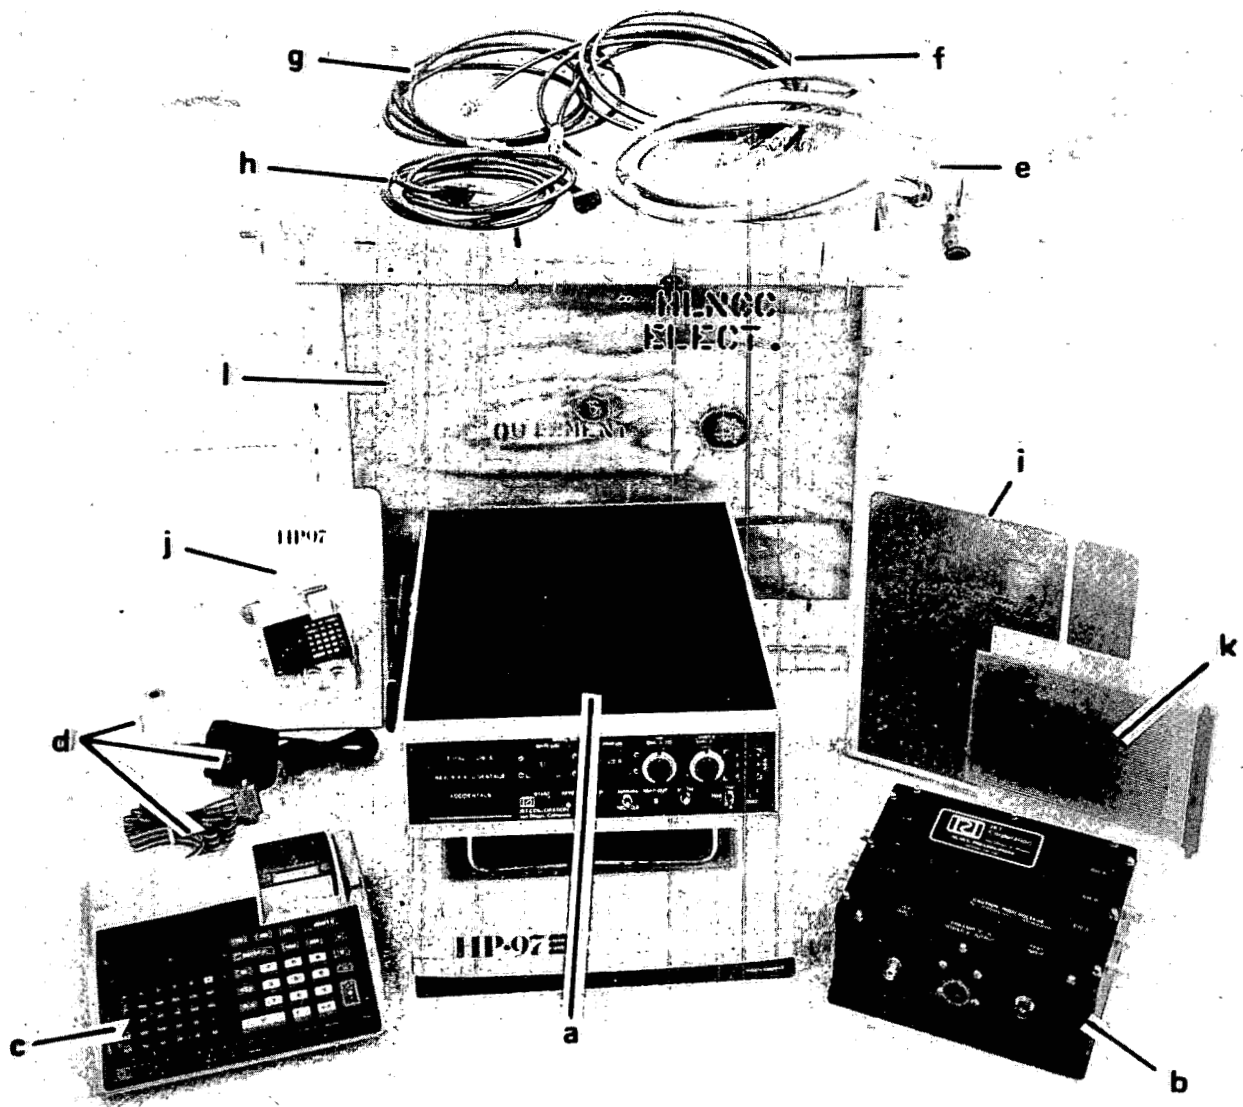

Fig. 1.
1. Unpack and check contents of shipping containers (Fig. 1).